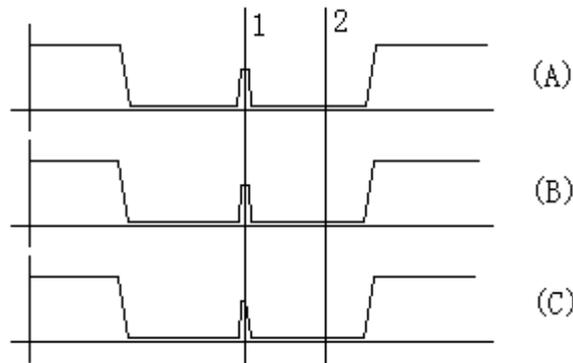

Figure 21 Over-range test waveform
4.2 Another phenomenon is over-range test. If the transition resistance of the test switch is greater than 20Ω and the selected range is 1.0A, the test result will show the waveform shown in Figure 21.